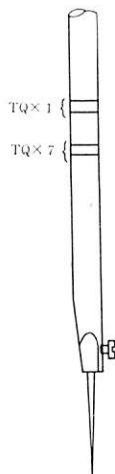

Fig. 13
If it's not even, loosen the needle bar bearing block and thread guide clamp screw ① (Fig. 13) when the needle bar is at its lowest position and make the upper timing line even with the lower timing line of the needle bar lower bushing.
- (i) When the needle bar has risen, be sure that the needle clamping screw (Fig. 13 ③) goes into the slot of the needle bar lower bushing.